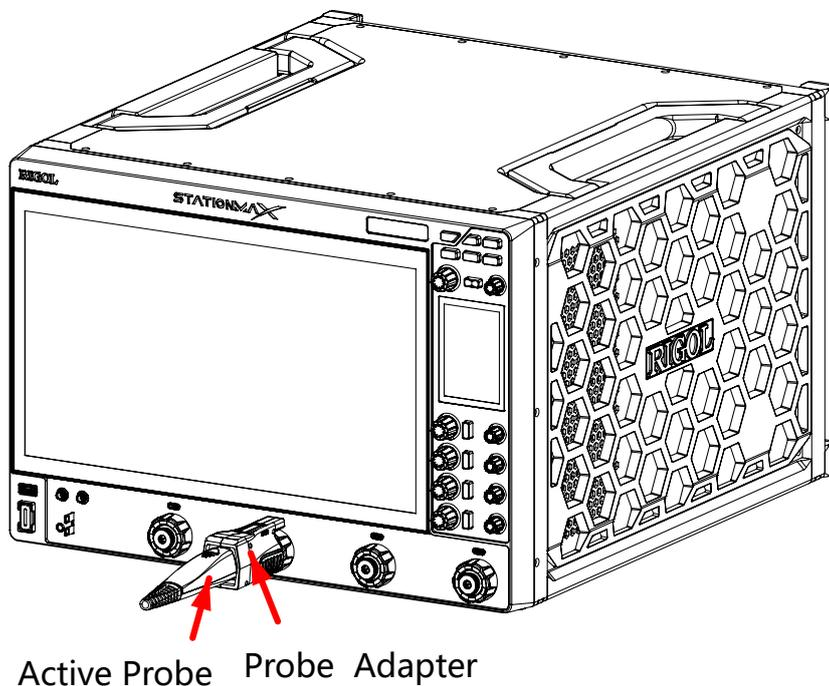

Figure 4.6 To Connect the Active Probe
2. Connect the other end of the preamp to an analog channel input terminal on the front panel of the oscilloscope via the probe converter, as shown in *Figure 4.6*.